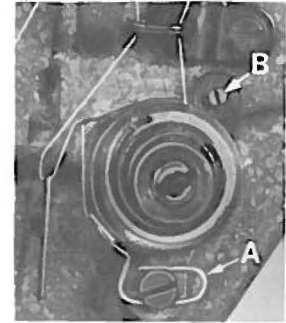

Fig. 18A
1. Set the tension assembly so that the tension discs are centered on the check spring eyelet (A, Fig. 18A).
2. Solenoid plunger pin (E, Fig. 16A) must touch tension release pin and the end of solenoid plunger pin must protrude a minimum of $1/32$ inch to a maximum of $1/16$ inch. If adjustment is required move tension post assembly in or out by loosening set screw located under machine arm and moving stop screw (B, Fig. 18A) as required.